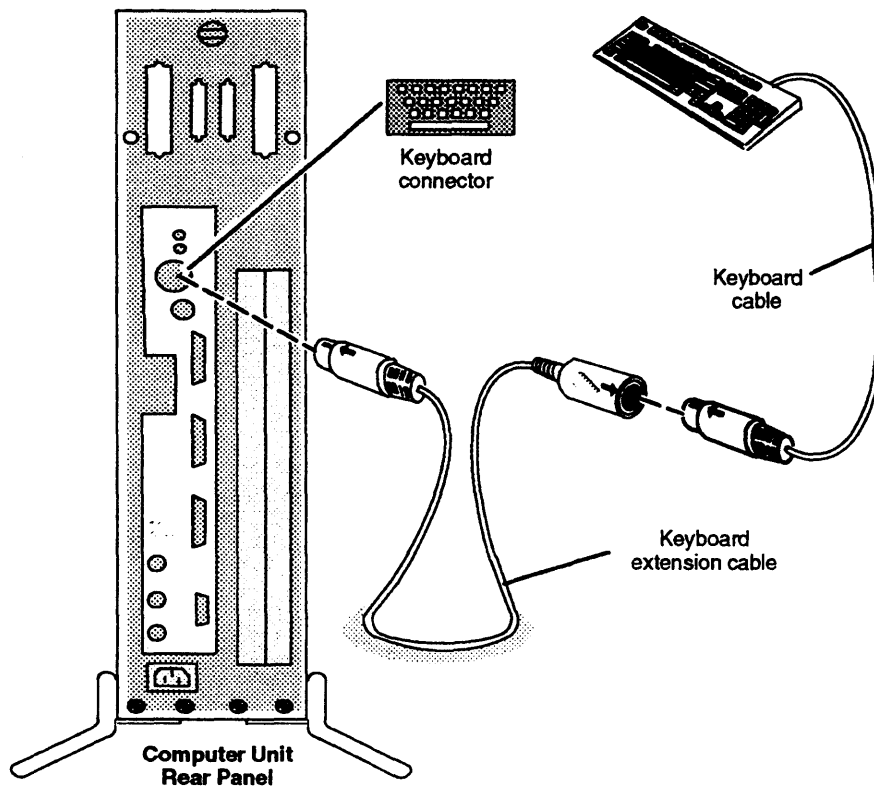

Figure 2-6 Connecting the Keyboard
3. Plug the female end of the keyboard extension cable into the end of the keyboard cable; then, plug the other end of the extended keyboard cable into the keyboard connector on the rear panel of the computer unit, as shown in Figure 2-6.